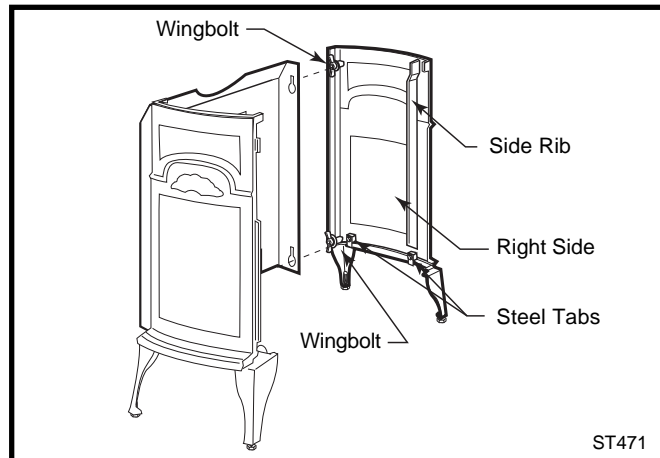
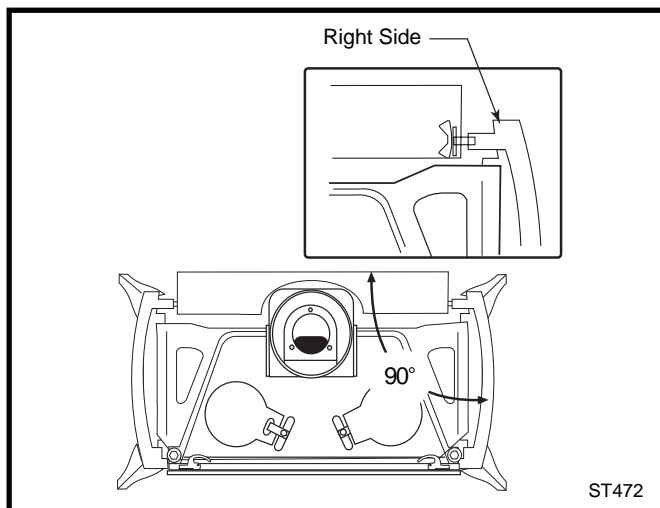
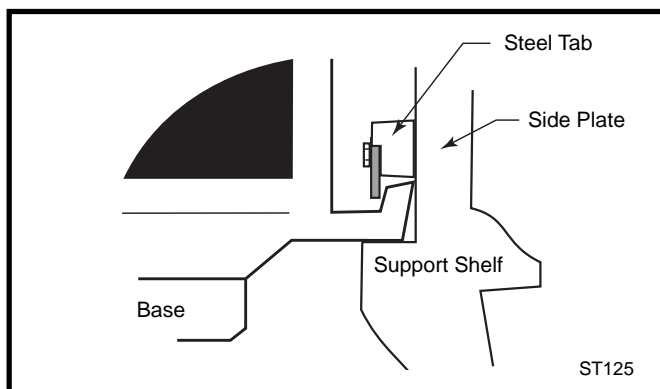

Fig. 15 Fasten right end to rear skirt.
Fig. 16 Align both sides with the rear skirt.
Fig. 17 Install firebox assembly.
2. Attach the Right Side Plate to the Rear Skirt. (Fig. 15) Move this assembly close to the stove's final position. Align the two side plates at right angles to the Back Panel as in Figure 16.
3. Lift the firebox assembly and slide it into the shell. The base of the firebox should rest on the side support shelves. (Fig. 16 & 17) The side plates interlock with the firebox by use of a pair of steel tabs that engage with the ribs on the base of the firebox. (Fig. 17) Properly positioned, the firebox will be level and locked in place. If not, adjust the levelling screw in the foot of each leg as needed.